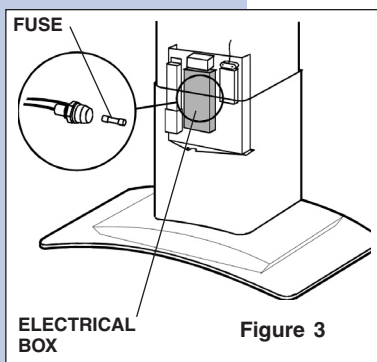

Figure 3
- 1 Raise or remove the lower decorative flue. See Figure 3.